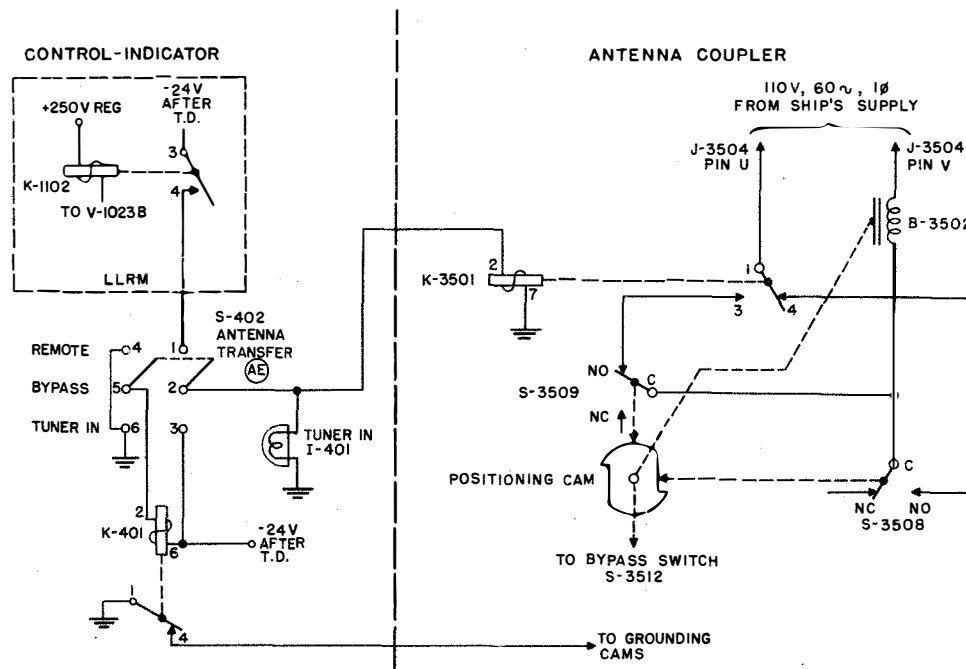

Figure 2-43. Antenna Transfer (AE) Switch S-402, Control Circuit, Simplified Schematic
(2) ANTENNA TRANSFER (AE) SWITCH S-402, CONTROL CIRCUIT.—The ANTENNA TRANSFER (AE) switch S-402 (figure 2-43) is a double-pole, double-throw toggle switch with an off position. The three positions are designated TUNER IN, BYPASS, and REMOTE. One pole of this switch provides the remote control for the positioning of an electromagnetic actuator, B-3502 in the antenna coupler. The second pole of S-402 controls the operation of relay K-401.
(d) Figure 2-43 shows the actuator in the BY-PASS position with S-3508 resting in the cam notch and S-3509 riding on the cam ring. It can be seen that if ANTENNA TRANSFER Ⓢ switch S-402 were now placed in the BYPASS position, a-c power for the actuator would be supplied through the contacts 1 and 4 of the now nonoperated K-3501 to the NO contacts of S-3508 where an open circuit exists, and the actuator would not be energized. However, if the positioning cam were in the TUNER IN position when ANTENNA TRANSFER Ⓢ switch S-402 was placed in the BYPASS position, the winding of actuator B-502 would be energized, as a circuit would now be completed through contacts NO and C of S-3508. The actuator would continue to rotate until the position of the bypass switch, where the antenna tuning equipment is switched out of the r-f line, was reached. At this point the notch in the positioning cam would be at the position of switch S-3508 and contacts NO and C would open, de-energizing the actuator winding.